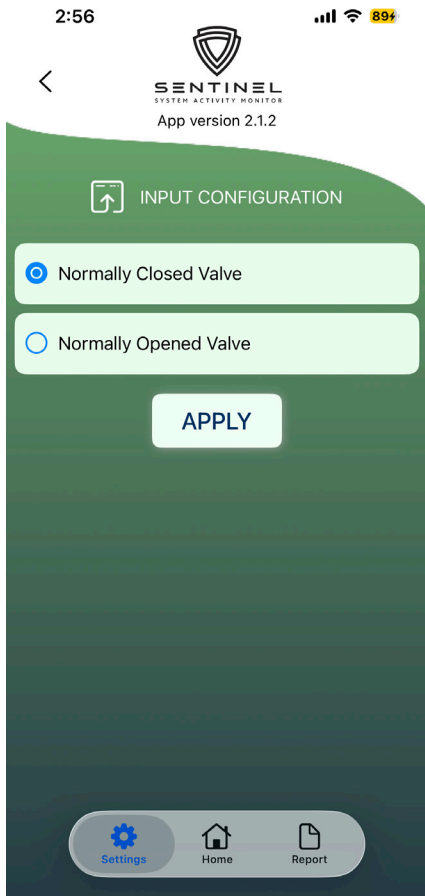

Figure 27
7. Select Normally Open/Closed based on the valve in question. Then press apply to save all settings. See Figure 27..